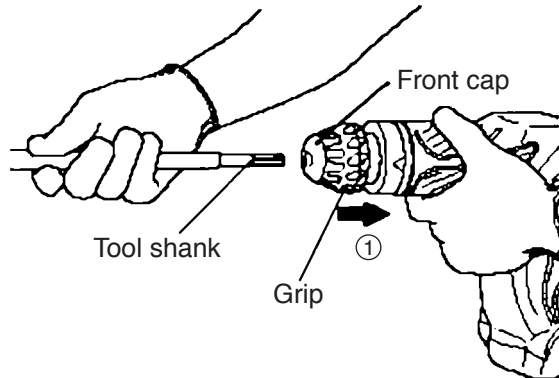
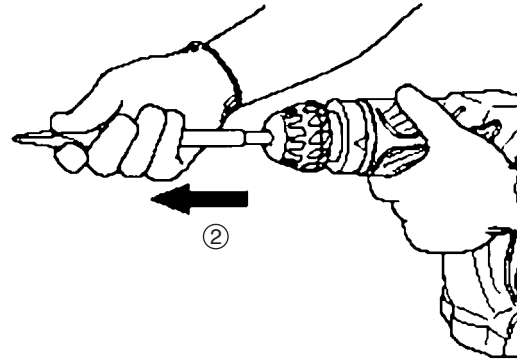

Fig. 6
Fig. 7
The Model H 25PV is equipped with a slide-type tool retainer. Tools can be attached and detached just by pulling grip. While pulling grip in ① direction, insert the tool in the hole of the front cap (Fig.6). Adjust the groove position by turning the tool and push it in to the end. Lock the tool by returning grip back to the original position. Make sure it is locked completely by pulling tool in ② direction (Fig. 7).